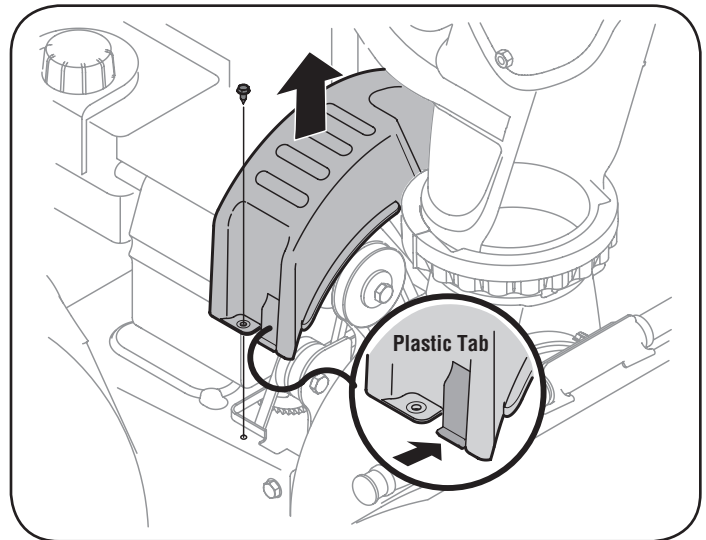

Figure 18
1. Remove the plastic belt cover on the front of the engine by removing the self-tapping screw shown in Figure 18 and pressing the plastic tabs to release the belt cover.
3. Remove the self-tapping screw shown in Figure 18, and press the plastic tabs to release the belt cover. Pull the belt cover up and out from around the engine and chute assembly. Set it aside and save.